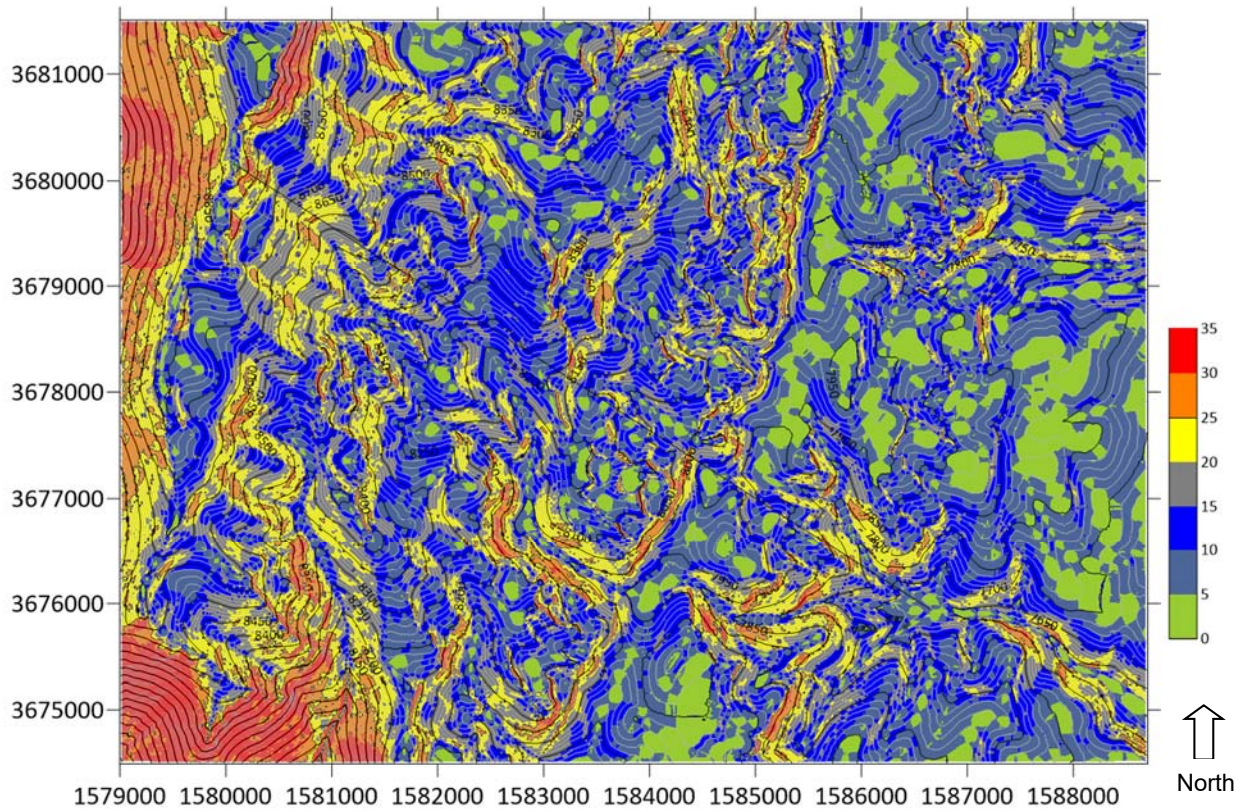

Figure 2 –Slope Map showing planned Ski Lift
2. We used the DEM to create a slope angle map to identify areas steep enough to produce avalanches. Figure 2 shows the slope map.